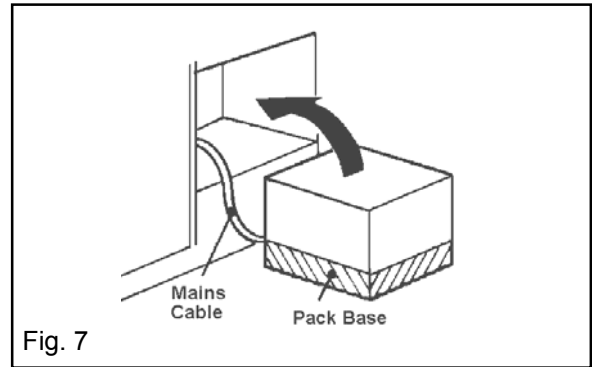

Fig. 7
- Position the appliance in front of the cabinet. See Fig. 7.
- iii) To set the length of cooking time, press the cooking hours button (⏸) and while holding it down, turn the increase control (+) until the required length of cooking time is displayed, e.g. 2 hrs 15 mins as Fig. 7. If necessary turn the decrease control (-) until the correct time interval is achieved.